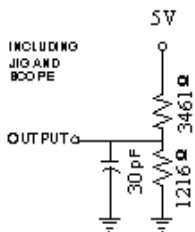

FIGURE 1A
5. Test conditions assume signal transition times of 5ns or less, timing reference levels of 0.5VCC, input pulse levels of 0V to VCC and output loading specified in Figure 1A.
9. Test conditions assume signal transition times of 5ns or less, timing reference levels of  $0.5V_{CC}$ , input pulse levels of 0V to  $V_{CC}$  and output loading specified in Figure 1A.